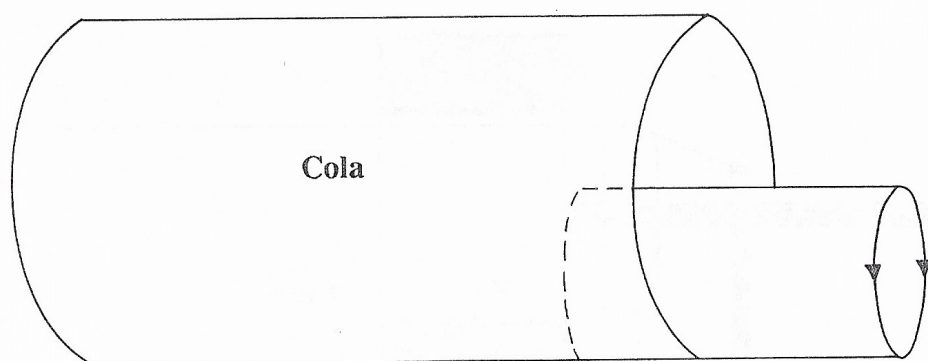

Figure 3
3. Once the top has been cut off, the edge of the can will be slightly deformed. Roll a small cylindrical object (such as a spice bottle, salt shaker, or thick metal rod) along the inside lip of the can to smooth out the deformity and rough edge. (See Figure 3.)